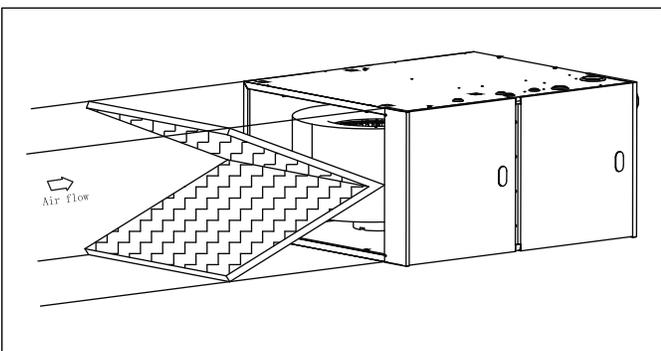

Figure 21
- ▶ If disposable filters are used, air passage through filters should be increased to twice the size of original air opening by using a transition duct or using two filters in V shape (see Fig. 21) in normal duct size.